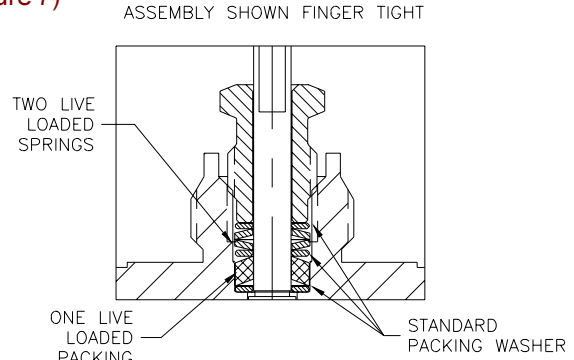

Figure 7
2. Refer to Figure 7, 8 or 9 Stack the five Stem Packing components on the Stem in the following order, with the first item being placed at the bottom of the Stem:
For B2 (Figure 7)